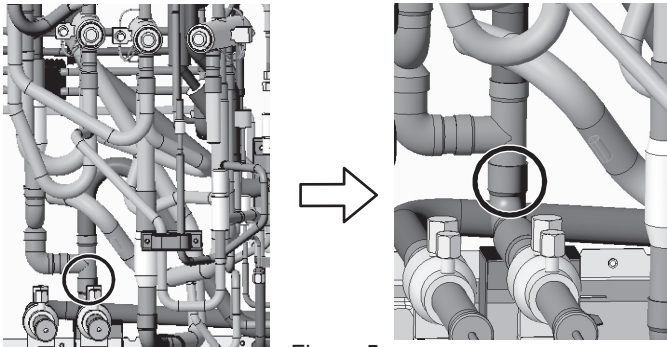

Figure 5
(4) Remove the braze from the pipe where circled in the figure. (See Figure 5.)